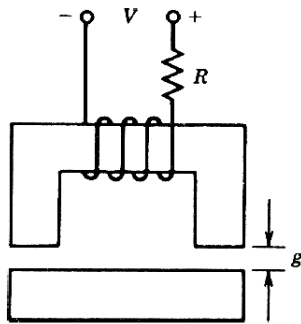

FIGURE P3.7
- 3.7 The electromagnet shown in Fig. P3.7 can be used to lift a sheet of steel. The coil has 400 turns and a resistance of 5 ohms. The reluctance of the magnetic material is negligible. The magnetic core has a square cross section of 5 cm by 5 cm. When the sheet of steel is fitted to the electromagnet, air gaps, each of length $g = 1$ mm, separate them. An average force of 550 newtons is required to lift the sheet of steel.